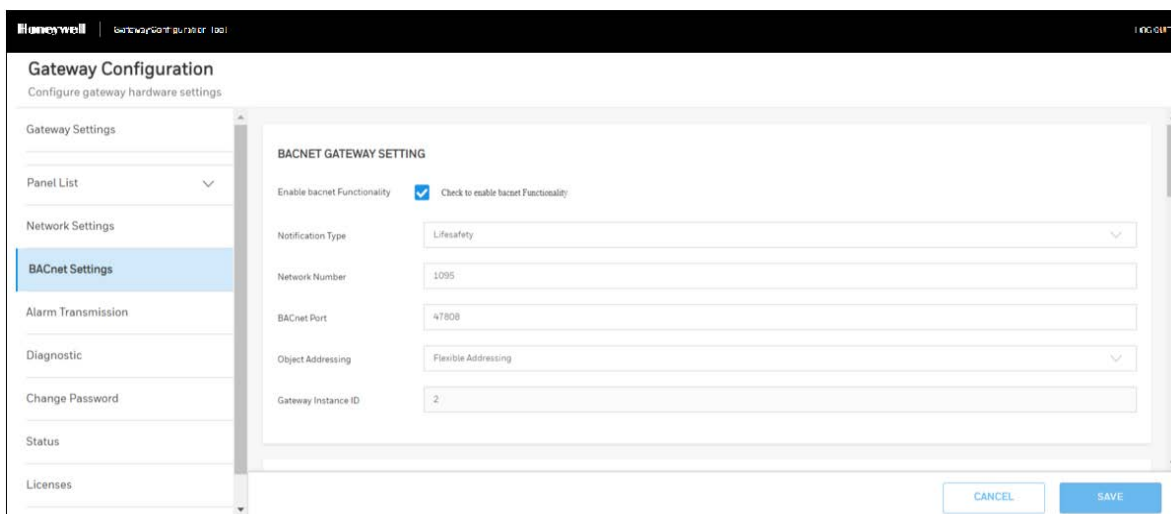

Figure 8.6: BACnet Gateway Settings Screen
12. Find and click **BACnet Settings** in the **Gateway Settings** section as shown in Figure 8.6.